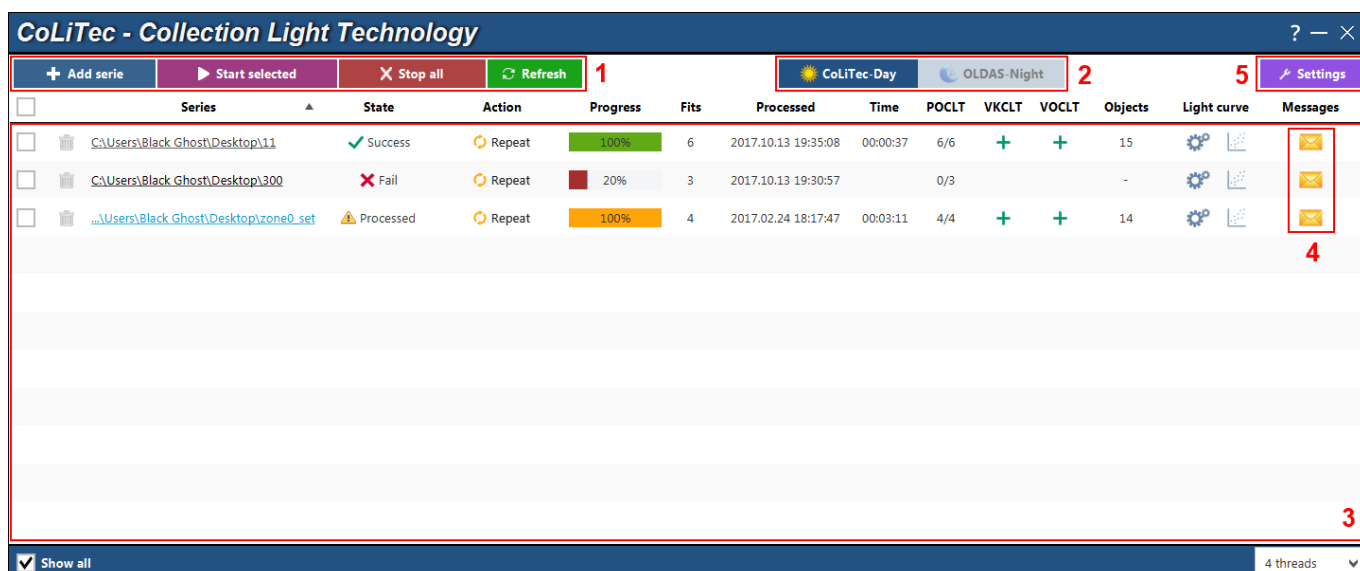

Figure 1. CoLiTec Control Center main window
Access to capabilities of **CoLiTec Control Center (3C)** is carried out through the interface of main window (Figure 1).
– shows the number of launched clones during processing in OLDAS mode. The number of launched clones can be set before processing start using the drop down on the main window (Figure 1) –  .